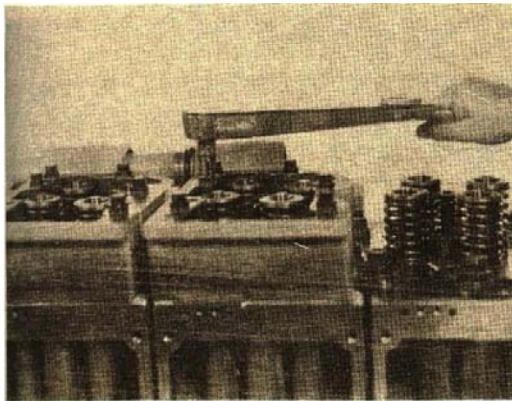

Fig.14-54, Tighten the rocker housing capscrews
5. Repeat steps 3 and 4 for the remaining rocker housing. Fig. 14-54.